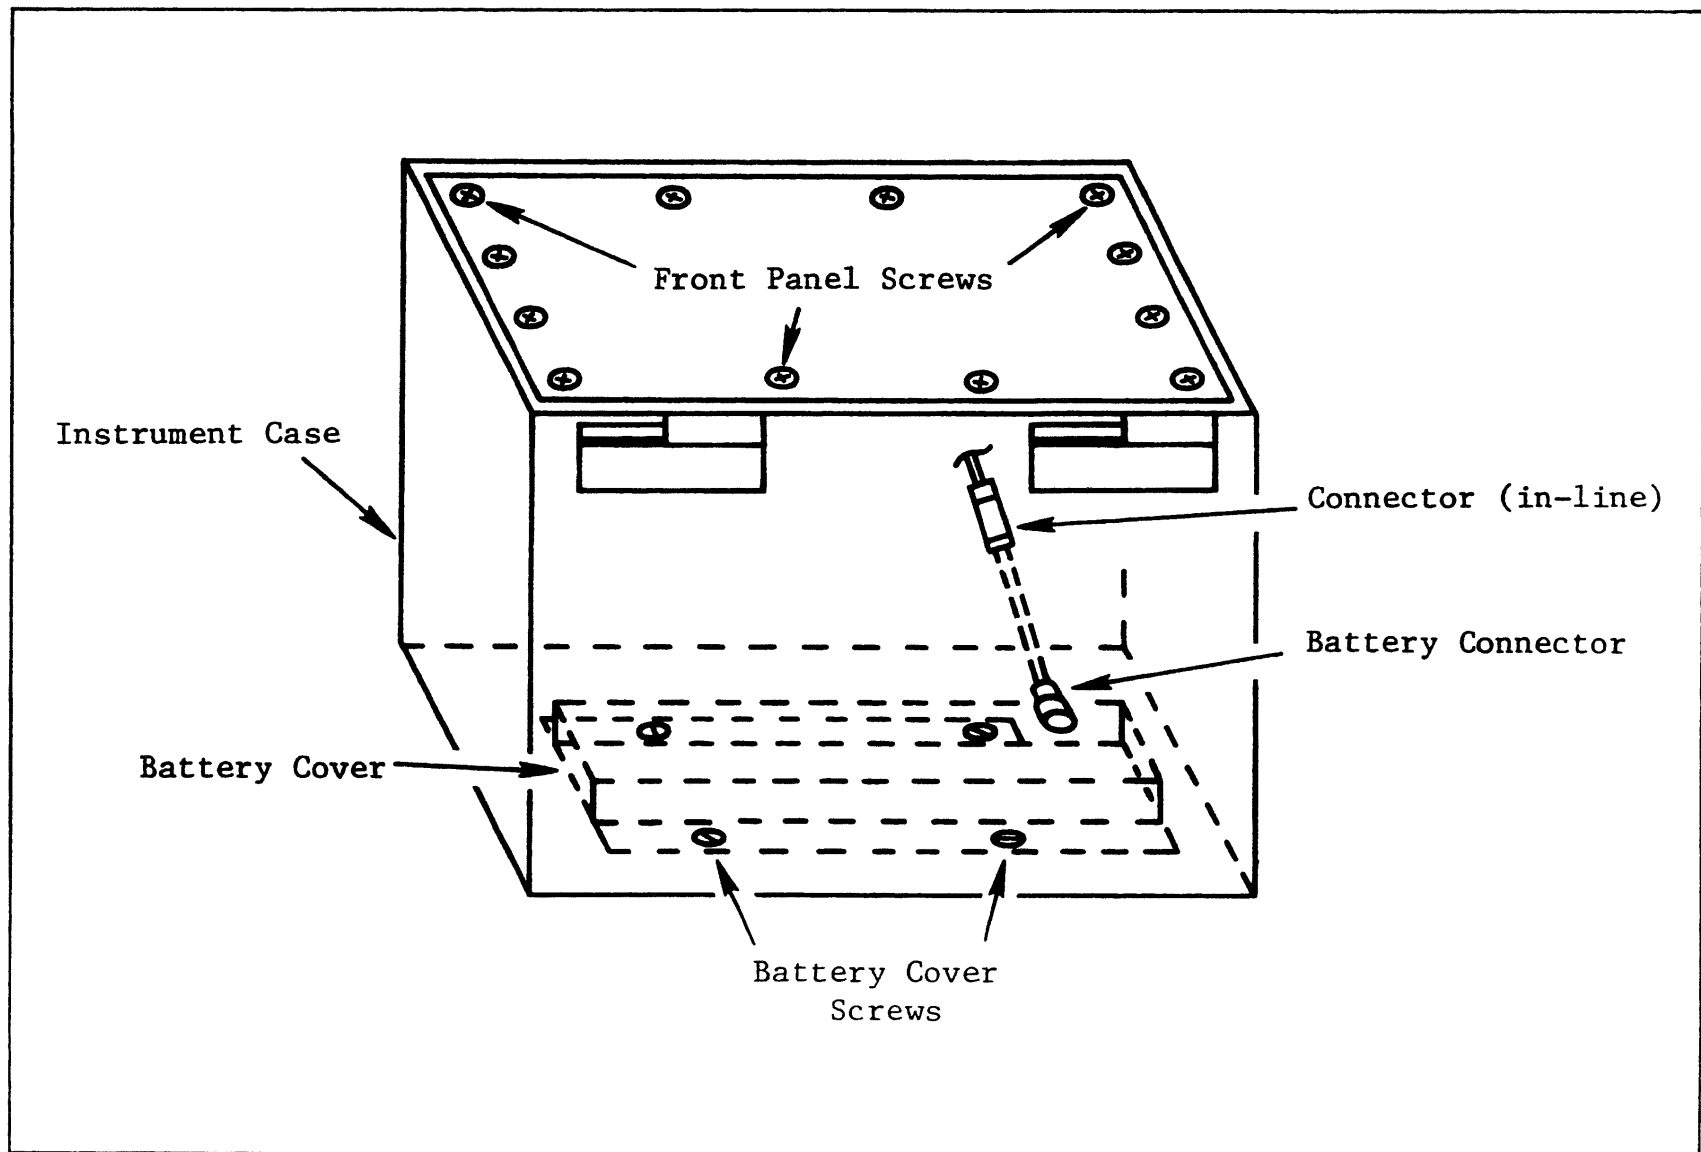

Figure 5-1 Instrument Case (rear view)
- (a) Remove the 12 screws securing the Front Panel to the Instrument Case. See Figure 5-1.